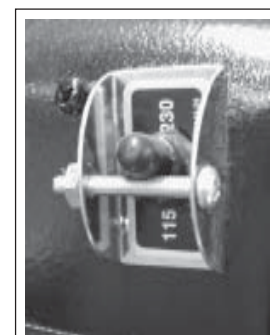

Figure 8
- Identify the electrical power requirements of the saw. The voltage requirements of the motor can be found on the motor data plate. For dual voltage models, be sure the voltage selector switch position correctly matches the incoming power source and that it is locked into the selected voltage position with the locking bolt. (*Figure 8*)
REMINDER: On models equipped with a voltage selector switch, verify switch is set at the operating voltage available at the job site and the locking bolt is in place. Motor burnout due to use of improper voltage will void the warranty on the motor. (See *Figure 8*)